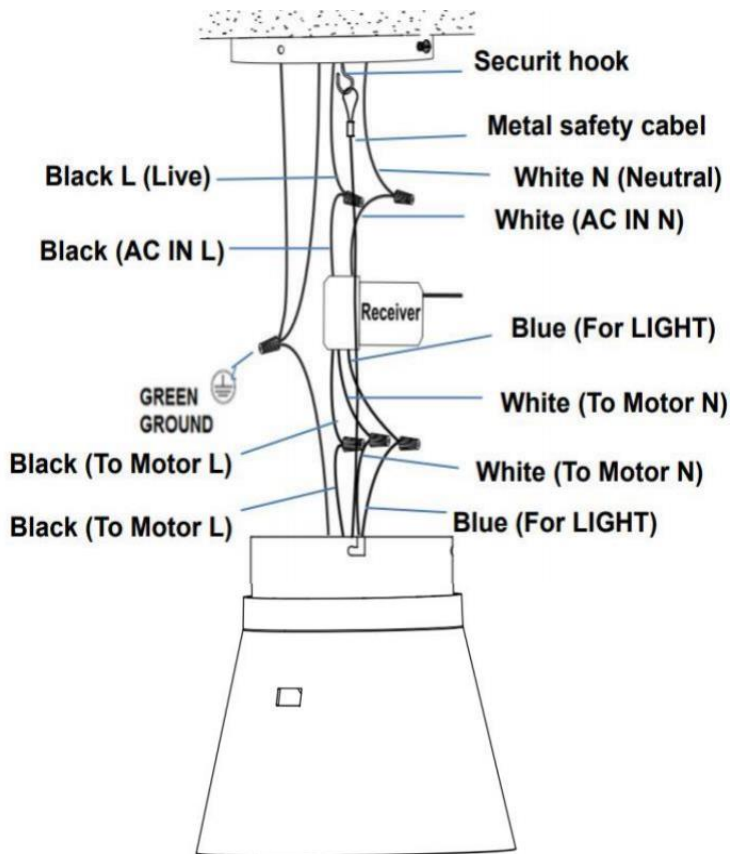

Fig. 8
1. Connect the household live supply wire (black) to receiver input wire (black, AC IN L) as shown in **Fig. 8**.